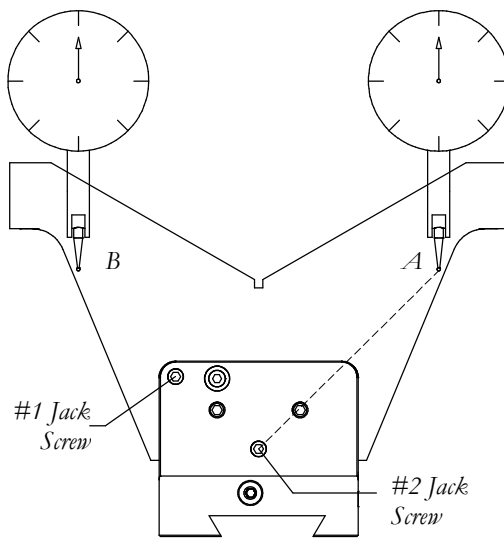

Figure 1
STEP 5. True the first axis (x-axis) by placing the indicator ball on the mark at the right end of the body in line with the pivot ball and #2 jack screw as shown in Fig. 1, point A.
STEP 7. (A). Zero the indicator. **(B).** Move the indicator to the other mark on the other side of the body as shown in Fig. 1, point B. **(C).** Turn the #1 jackscrew until the indicator returns back to zero. (The first axis is now true.)